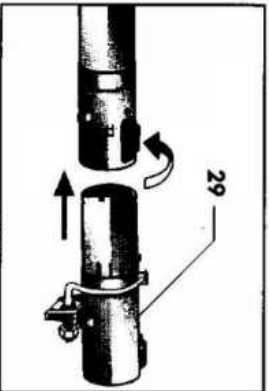

Fig. 13
- Install the female end of the extension hose onto the male end of the sprinkler and rotate the locking ring on the extension hose. (Fig. 13)